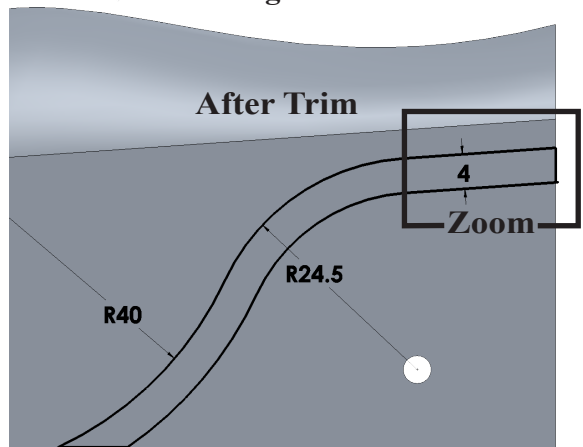

Fig. 92
Step 21. If necessary, zoom in around **rear edge of fender**, **Fig. 92**.